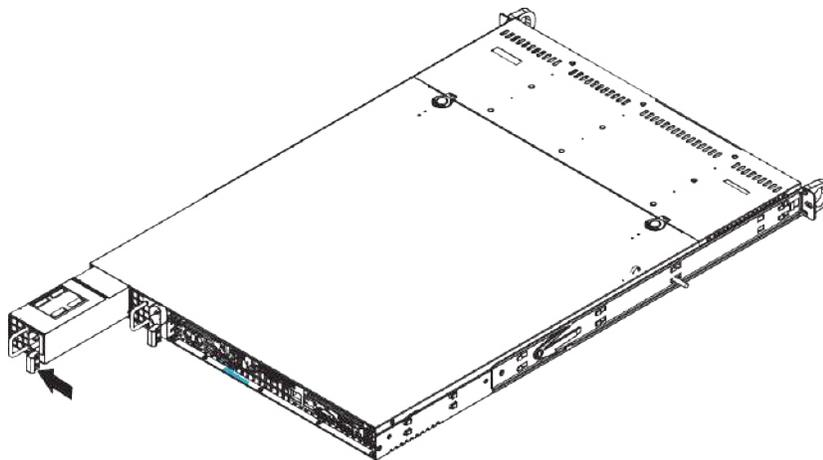

Figure 6-1. Removing/Replacing the Power Supply
2. Push the release tab (on the back of the power supply) to the side and then pull the unit straight out to remove the failed PSU (see Figure 6-1).